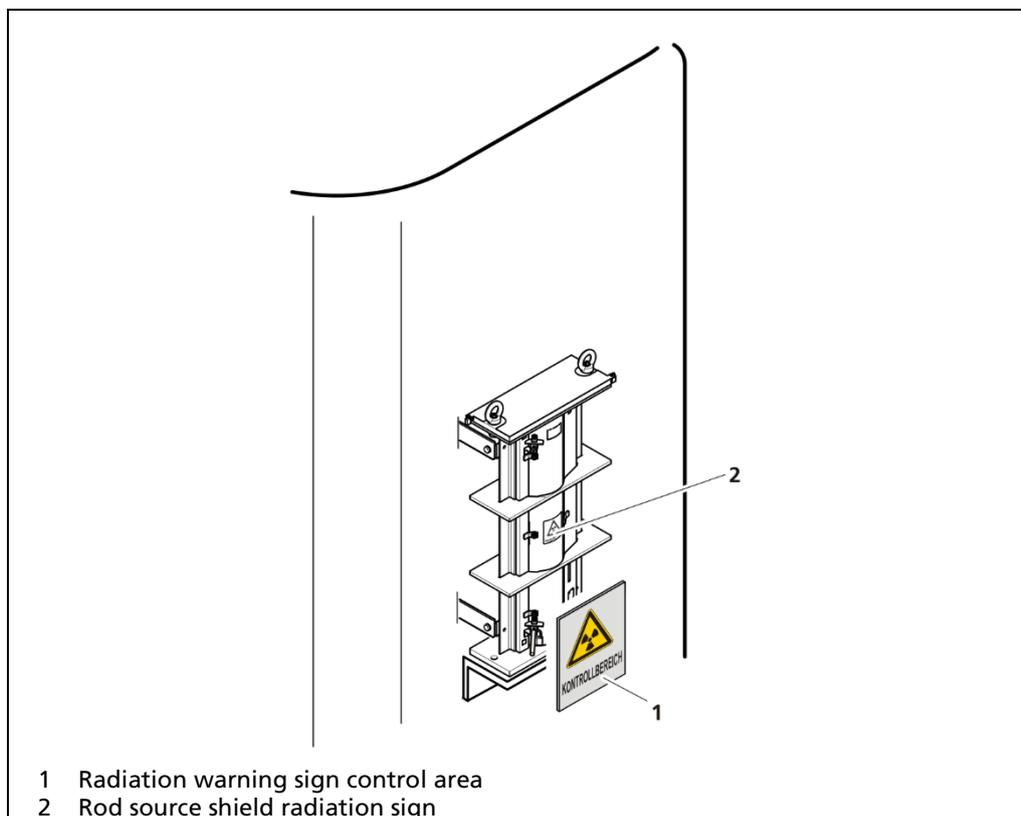

Fig. 7 Example marking
The radiation warning sign (Fig. 7, item 1) indicates the beginning of the control area as long as the control area is outside the shield.
If the control area is within the shield, then the radiation warning sign (Fig. 7, item 2) already applied to the shield is sufficient. Fig. 7 shows an exemplary identification of the control area according to German law. Please observe the local legislation of the country of install.